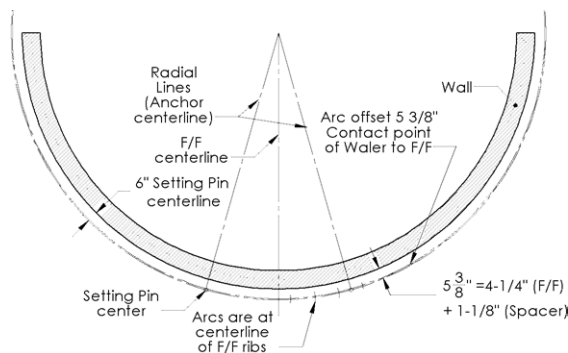

FIG. 63-1
1. First, attach "J" Hook Angles and Waler Tie Back Bars to the gang as required at the location determined in the previous steps (starting with Fig 63-1).